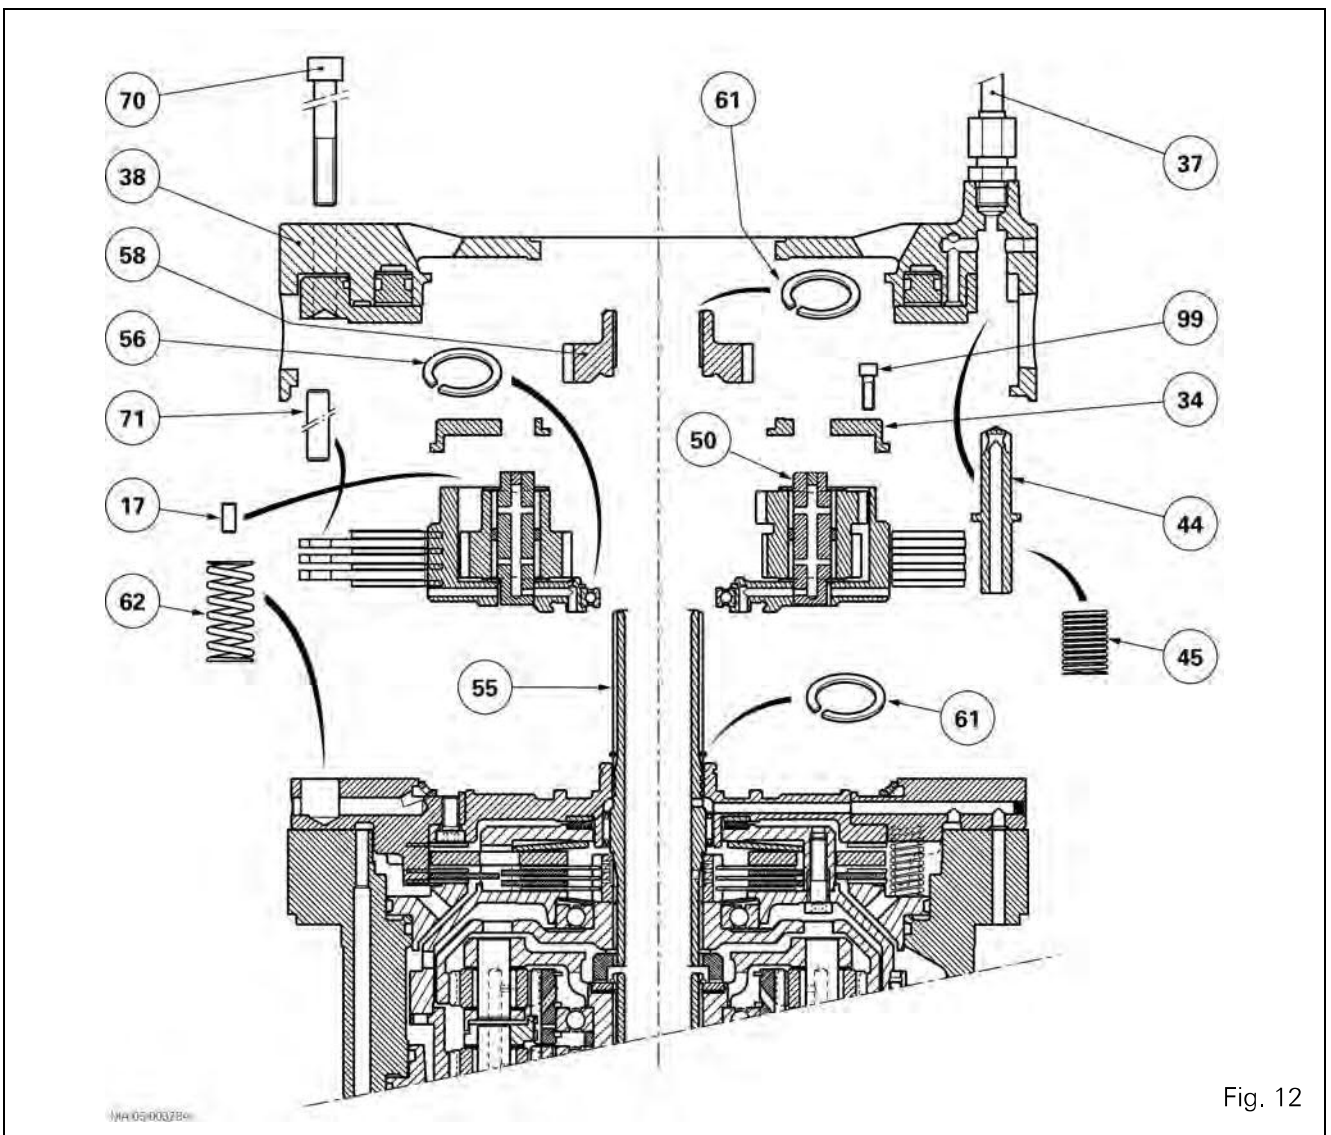
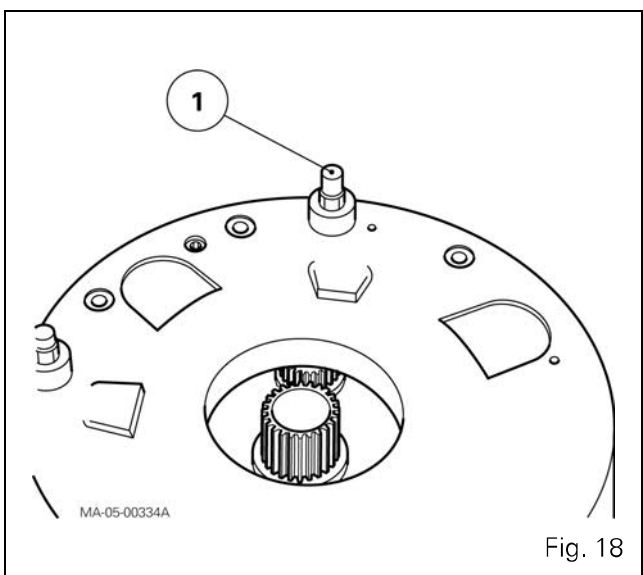

Fig. 12
Fig. 18
Disassembly (Fig. 12)
67. Remove the screws (70) and the cover (38).
68. Recover the spools (44) and the springs (45) (Fig. 12).
69. Remove the large springs (62) and the pins (71).
70. On cover (38), remove:
- the plate (43)
- the seal (42) and discard it
- the piston (39)
- the seals (36) (41) and discard them
- the unions (72), the valve (1) (Fig. 18) and the O'ring (75) of the 17 bar supply port (Fig. 3).
88. Check the presence of the locating pin (17) (Fig. 12).
89. Refit the cover (34). Check that it is correctly positioned on the pins (50) of the pinion gears and in the locating pin (Fig. 12).
91. Fit and tighten the screws (99) (Fig. 12) to a torque of 36 - 46 Nm. The thread should be previously smeared with Loctite 242 or equivalent.
92. On cover (38), check for the presence of rivets (40) at the end of the channels and refit:
- piston (39) with new lubricated seals (36) (41), gradually and alternately striking around the piston rim with a plastic mallet. Check that no fragments of the seal remain after assembly,
- plate (43) with a new lubricated seal (42), aligning the holes of the plate with those in the cover (38). Insert the plate using the same method as used for piston (39).
- 95. On the external face of the cover (38), place three sufficiently long and equally spaced studs in the holes provided for screws (64).
- 96. Install and position the cover, with the valve port (1) directed upwards (Fig. 18).
- 97. Pretighten screws (70).
- 98. During pretightening, check that the spools (44) still slide freely. Also check that each end of the (large) springs (62) is correctly housed in its respective seat.
- 99. Tighten screws to a final torque of (70) (Fig. 12) 36 - 46 Nm. After completing the tightening, check again that each spool can move freely and restore its initial position.
- 100. It is **imperative** to install and tighten the valve (1) to 6 - 8 Nm max. (Fig. 18) after fitting its seal. Fit and tighten the unions (72).